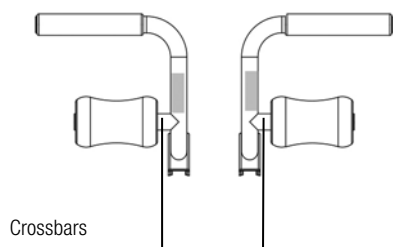

Fig. 1
2. Then attach Foam Pads on the Crossbars as shown in Fig. 1. Let dry before beginning to exercise with the Wing Attachments.
2. With the small end of the Ab Crunch Board closest to the Handle Grip securely attach the appropriate Handle with 4 Flanged Hex Bolts using Hex Wrench provided. See Fig. 1 below.